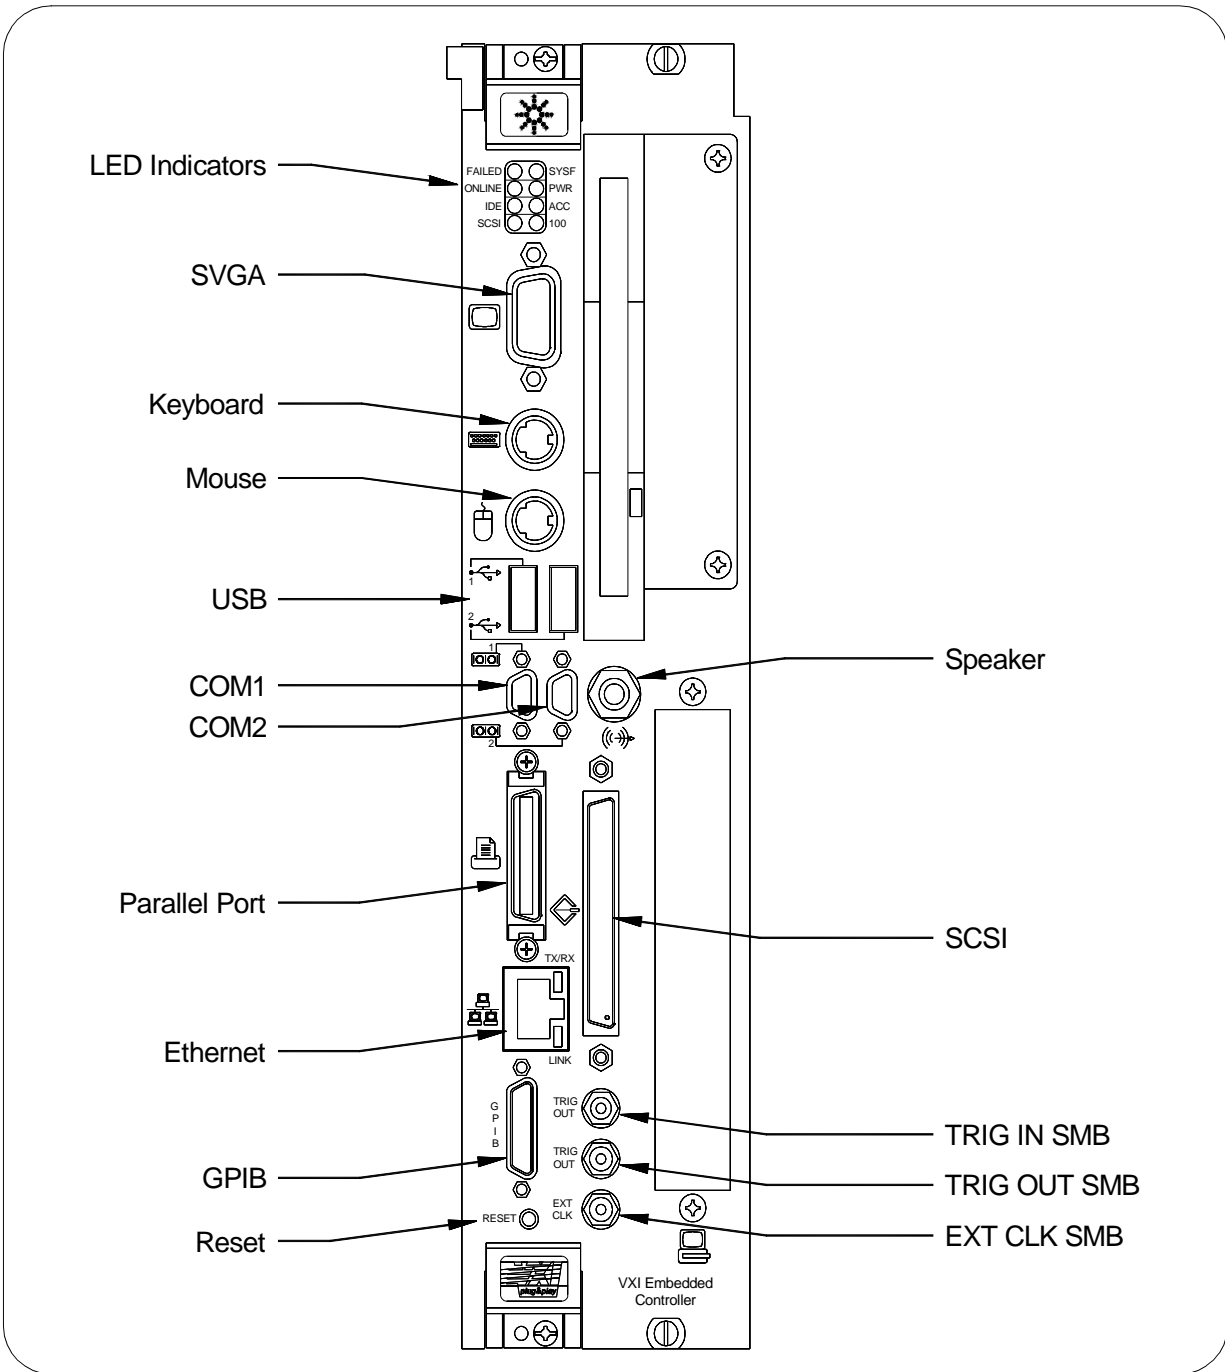

Figure 2-2. E9850A Front Panel Features
Step 4: Connect Interface Devices Connect interface devices to the appropriate front panel connectors as described in the following steps. See Figure 2-2 for front panel connector locations. See *Chapter 4 - E9850A Description* for descriptions of the connectors.